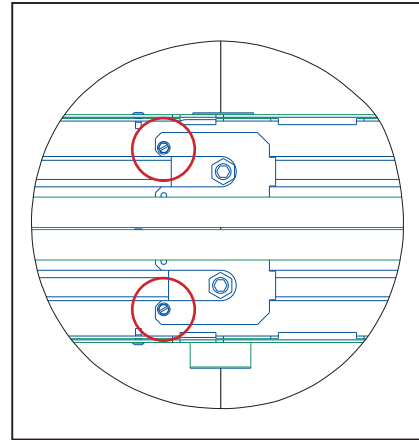

Figure 15: Secure Clip Screws
- Replace the clip and secure with a #10-12 x $\frac{3}{8}$ " sheet metal screw (HC-1186) using the pre-drilled hole. Refer to **Figure 15**.